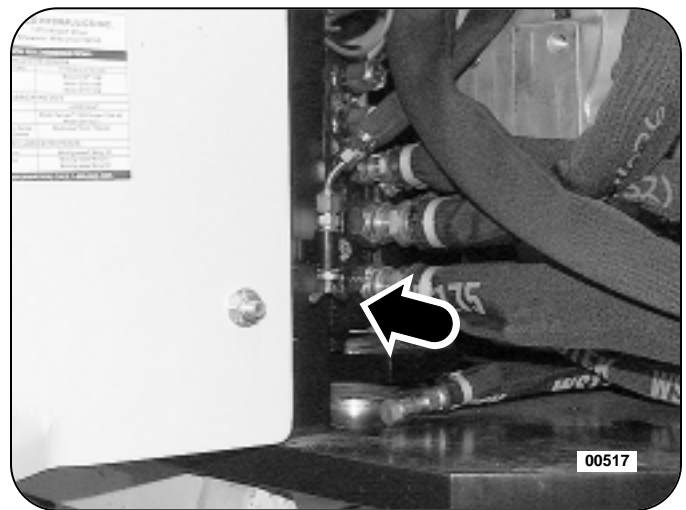

Figure 6: Turbo Boost Release Valve
1. Release turbo boost pressure at the turbo boost release valve. See Figure 6.